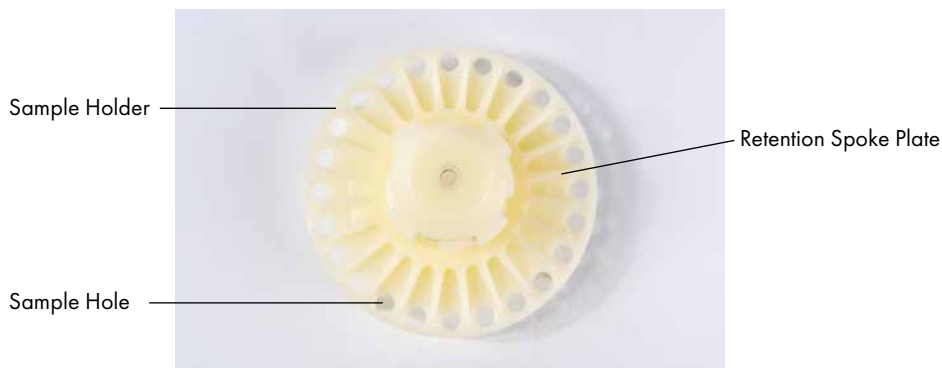

Fig. 5
4. Slightly lift the Spoke Plate and rotate clockwise so that the retention spokes move away from holes to leave them open for loading (Ref. Fig. 5).